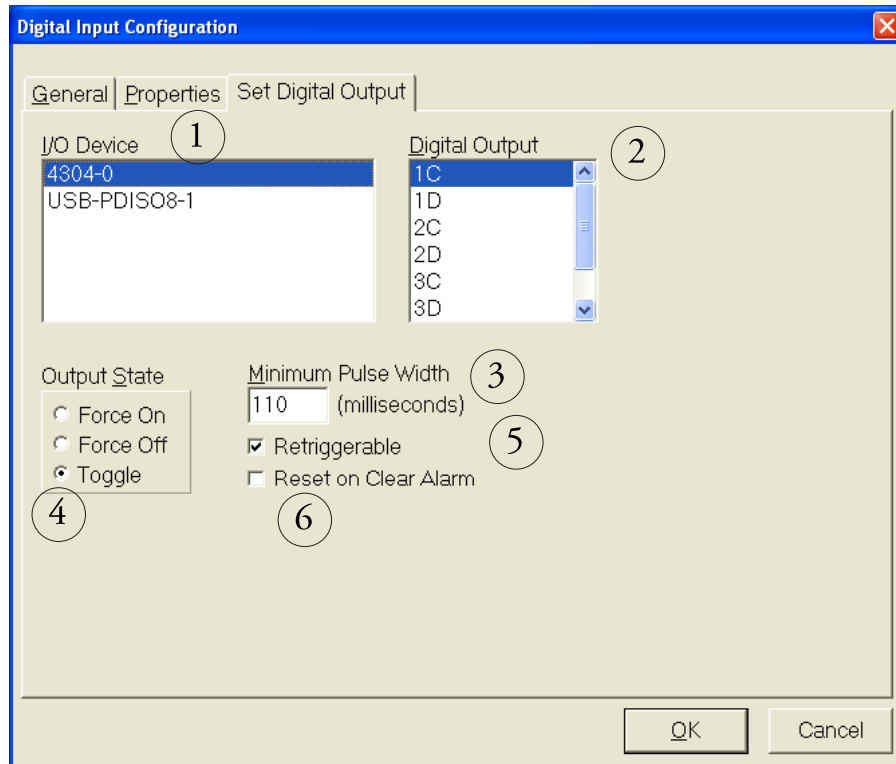

Figure 32. Digital Input Configuration panel—Set Digital Output
- 2.1 In the I/O Device section, select the device containing the relay you would like to trigger (*Part 1 in Figure 32*).
3. In the Digital Output section, select the relay of the eight that you would like to trigger (*Part 2 in Figure 32*).
4. If you would like the relay to remain triggered for a minimum amount of time, enter the amount of time (in milliseconds) (*Part 3 in Figure 32*).
5. Determine what you need for the Output State (*Part 4 in Figure 32*).
6. If you want the program to ignore all further digital inputs on the selected terminal until the specified Minimum Pulse Width time has expired, leave the checkbox for Retriggerable blank (*Part 5 in Figure 32*).
7. If you want an action to be able to reset your relay, check the box for Reset on Clear Alarm (*Part 6 in Figure 32*).